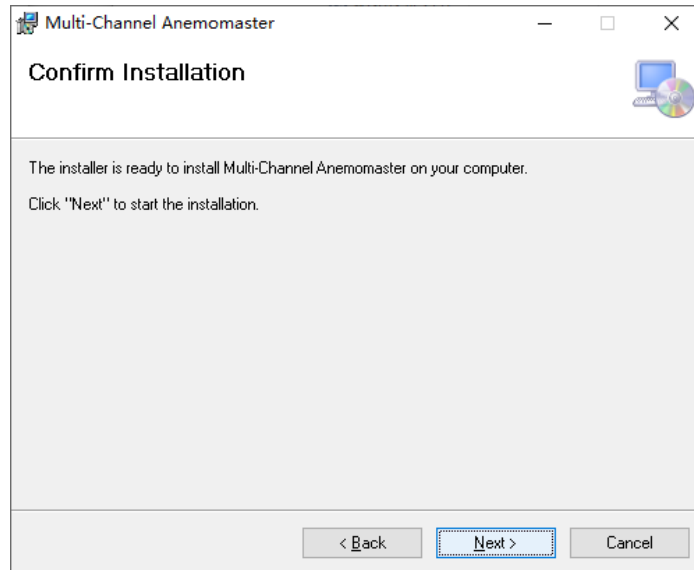

Figure 2-3 Confirmation Installation Dialog Box
3) Click the **(N)** button to display the dialog box as shown in Figure 2-3.